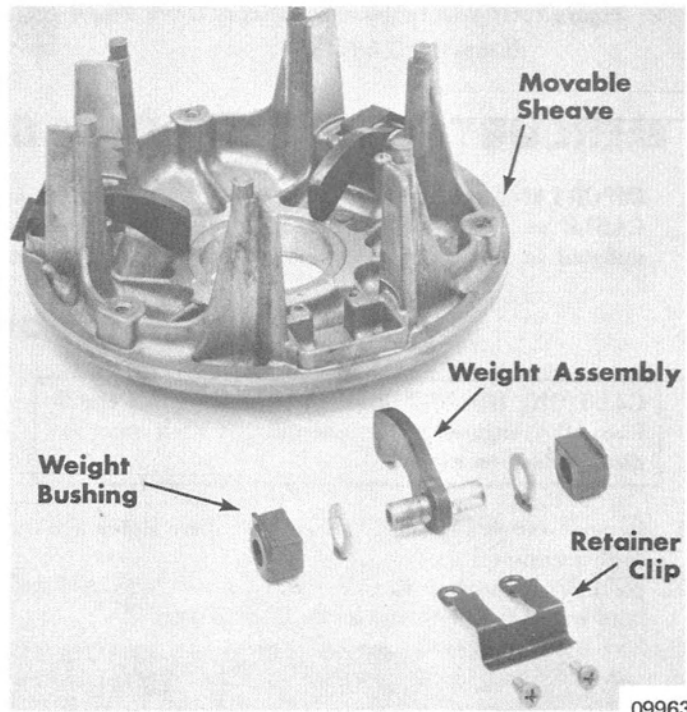

Figure 6. Movable Sheave and Weights
1. Reassemble movable sheave (Figure 6) as follows: